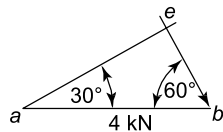
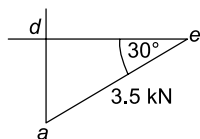
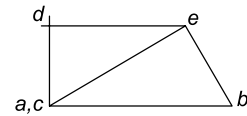

Figure 7.16
Figure 7.17
Figure 7.19
Consider joint ABE , as there are only two unknown forces here, namely the forces in the members BE and EA . Working clockwise around this joint, the vector diagram for this joint is shown in Figure 7.16.
Joint (2) cannot be considered next, as it has three unknown forces, namely H_2 , R_2 and the unknown member force DE . Hence, joint (1) must be considered next; it has two unknown forces, namely R_1 and the force in member ED . As the member AE and its direction can be obtained from Figure 7.16, it can be drawn to scale in Figure 7.17. By measurement, $de = 3$ kN.
As R_1 is vertical, then the vector da is vertical, hence, the position d can be found in the vector diagram of Figure 7.17, where $R_1 = da$ (pointing downwards).
The complete diagram for the whole framework is shown in Figure 7.19, where it can be seen that this diagram is the sum of the vector diagrams of Figures 7.16 to 7.18.